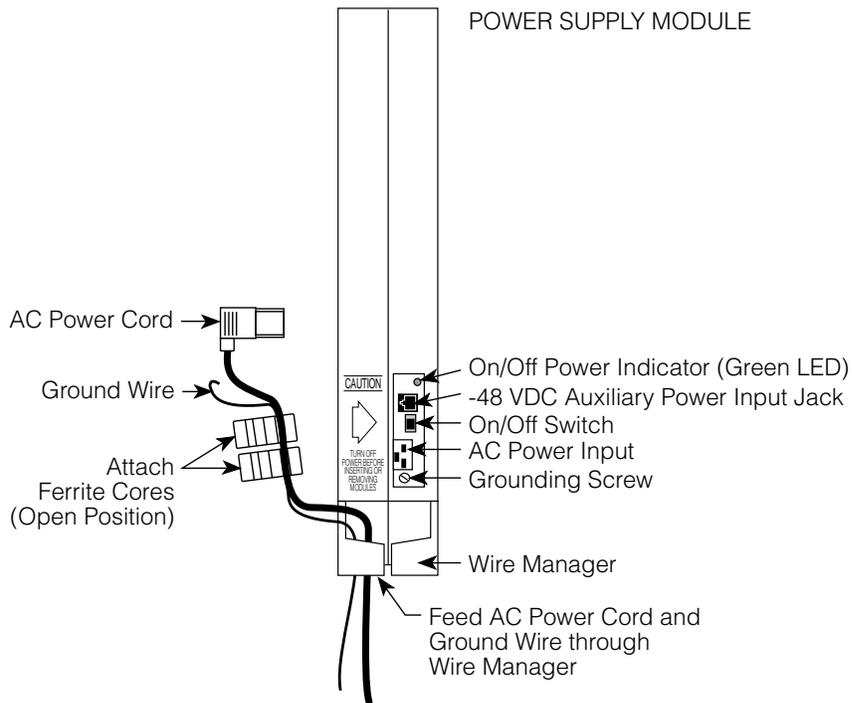

Figure 2-7. Installing the Ferrite Cores
- 1 Feed the AC power and ground wire through the wire manager (refer to Figure 2-7).**
- 5 Slide the ferrite cores between the wire manager and the power supply module (refer to Figure 2-7).**